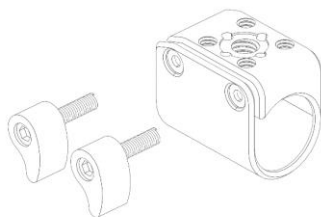

Figure 19: Dual collar sleeve with 1/4"-20 mount (dual knobs)
5. Use the **Dual Collar Sleeve w/dual knobs** (Part #31) shown in Figure 19 and included in the PRO Kit (also available for purchase from <https://www.marblorbit.com/store/accessories>) which can hold more than three (3) lbs. of counterweights.